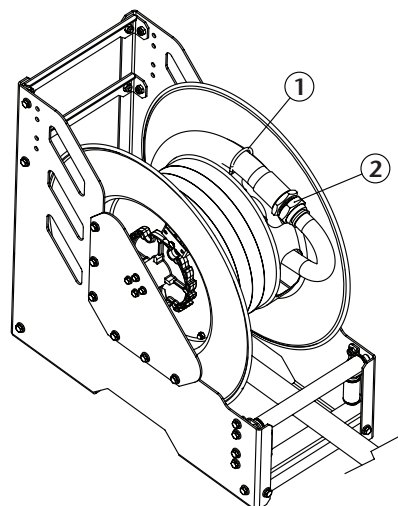

Fig. 5
2. Connect the new hose to the gooseneck (2), place the U-bolt (1) (fig. 5) in such a way that it firmly holds the hose against the spool, and start to wind the hose into the spool turning the spool manually.
2. Remove the U-bolt (1) by loosening its nuts and disconnect the hose from the gooseneck (2) (fig. 5).